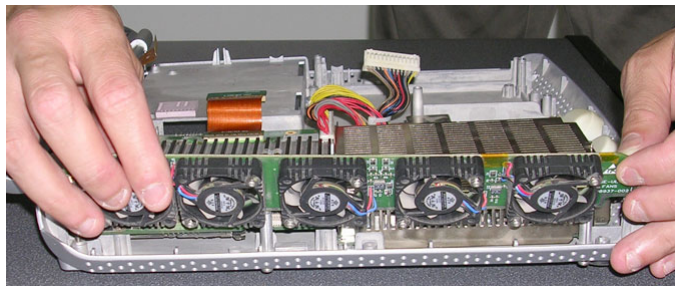

Figure 8-67 Removing the Fan Assembly
- 5) Using both hands, lift the Fan Assembly *upwards* from the *front* and then the *rear* to remove it from the Bottom Assembly; lay it down adjacent to the system, ready for the next step as shown in Figure 8-67 below.
- 2) Using both hands, carefully mount the replacement Fan Assembly into position on the Bottom Assembly - refer to Figure 8-67 on page 8-57.